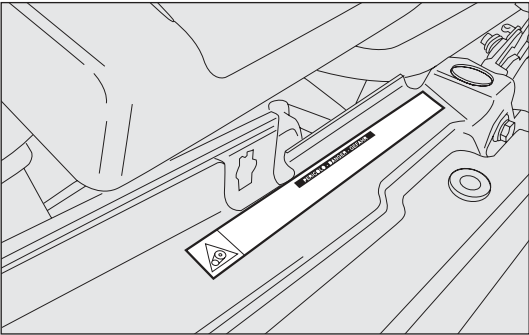

fig. 102
*Before opening the bonnet, make sure that the car is switched off and the key is in the OFF position. Follow the instructions on the plate near the front crossmember fig. 102. It is advisable to extract the key when there are other people in the car. The car should always be left after the key has been removed or turned to the OFF position. When refuelling, make sure that the car is switched off with the key in the OFF position.*